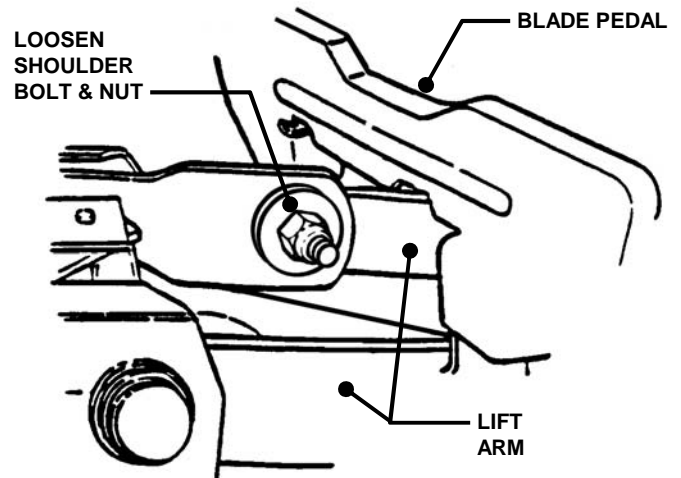

FIGURE 4.5
6. Loosen the shoulder bolt and nut retaining the left side of the front lift arm and adjuster. Only loosen the bolt and nut to the point where some tension remains but lift arm can be moved. See Figure 4.5.